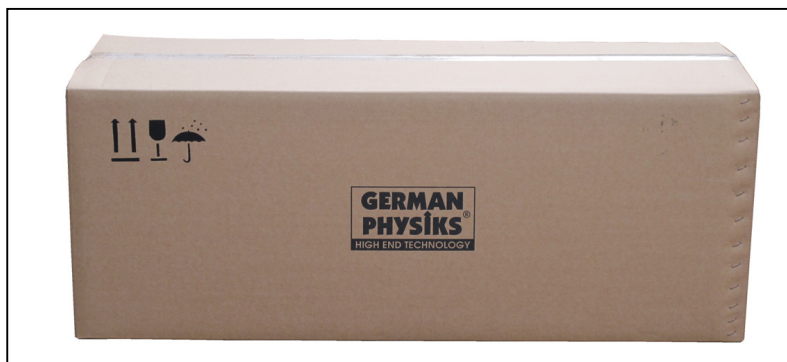

Figure 1. HRS-130 shipping carton
Each HRS-130 is packed in single carton. This must be kept horizontal as shown in figure 1. Before opening the cartons, please inspect them for damage. If you see any damage, please contact the supplying audio dealer immediately and provide them with a full description of the damage. Do not unpack the loudspeakers until you have spoken with the dealer and have been advised how to proceed.
1. Place the carton upright as shown in figure 1 and carefully cut the sealing tape on the top flaps.